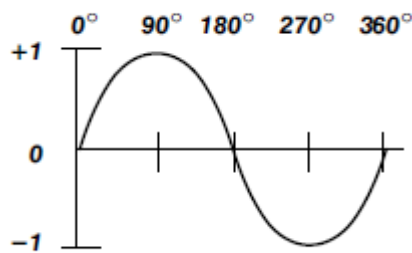

Fig. 4 Sine wave degrees
2. **Voltage:** Voltage is the amount of electric potential (a kind of signal strength) between two points in a circuit. Usually one of these points is ground (zero volts) but not always – you may want to measure the voltage from the maximum peak to the minimum peak of a waveform, referred to as the peak-to-peak voltage. The word amplitude commonly refers to the maximum voltage of a signal measured from ground or zero volts. The waveform shown in Fig. 4 has an amplitude of one volt and a peak-to-peak voltage of two volts.
3. **Phase:** Phase is best explained by looking at a sine wave. Sine waves are based on circular motion and a circle has  $360^\circ$ . One cycle of a sine wave has  $360^\circ$ , as shown in Fig. 4. Using degrees, you can refer to the phase angle of a sine wave when you want to describe how much of the period has elapsed.